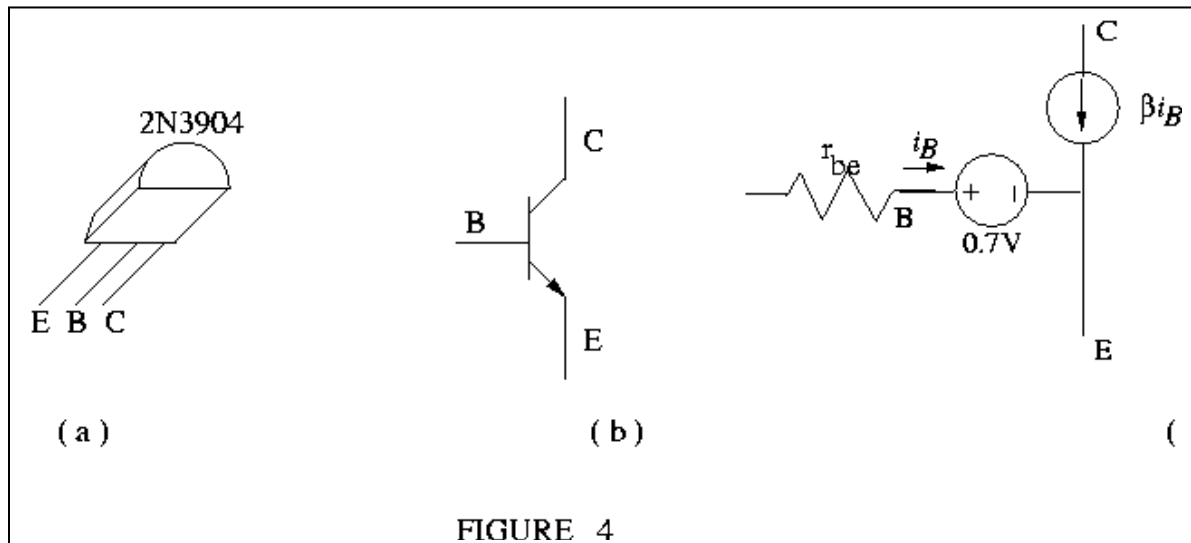

Figure 1
The 2N3904 transistor is a solid-state, three-pin device. The pins are named collector (C), base (B), and emitter (E). The transistor can be modeled as a current-controlled current source (CCCS), as shown in Figure 1. Get a 2N3904 transistor and identify the collector, base and emitter. Also get a 2N2222 transistor that will be used later.